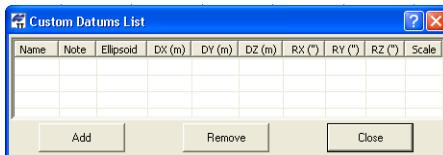

Figure 2-21. Custom Datums List
2. On the **Custom Datums List** (Figure 2-21):